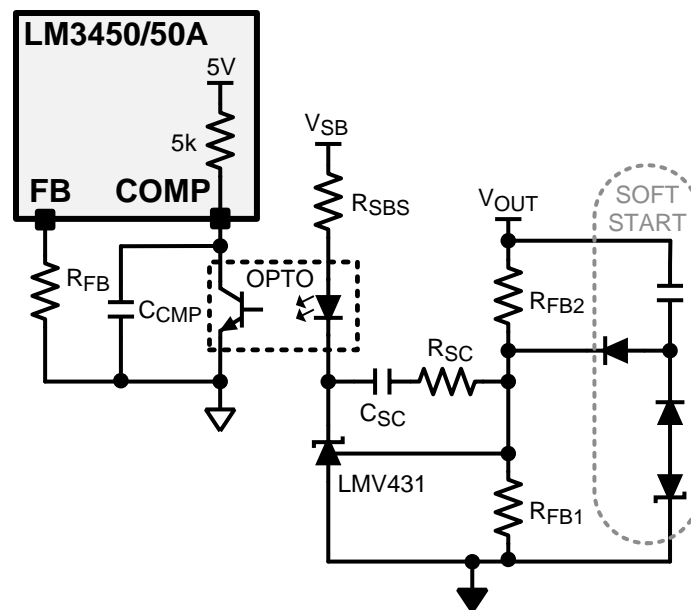

Figure 23. Secondary Error Amplifier
For isolated designs, the error amplifier on the secondary should take the form of a proportional integral (PI) compensator. The amplifier is frequently implemented with an LMV431. The output voltage resistor divider (R_{FB1} , R_{FB2}) provides the sensed output voltage to the LMV431 inverting input. The PI compensation is achieved by connecting R_{SC} and C_{SC} in between the LMV431 input and output, shown in Figure 23. In addition, C_{COMP} is placed from COMP to GND on the primary for higher frequency noise attenuation.
In addition to the basic error amplifier, a soft-start circuit can be implemented using a capacitor, two diodes and a Zener diode as shown in Figure 23. This secondary softstart circuit has no restart mechanism, therefore a primary side softstart is recommended as described in the SOFTSTART section of this document.